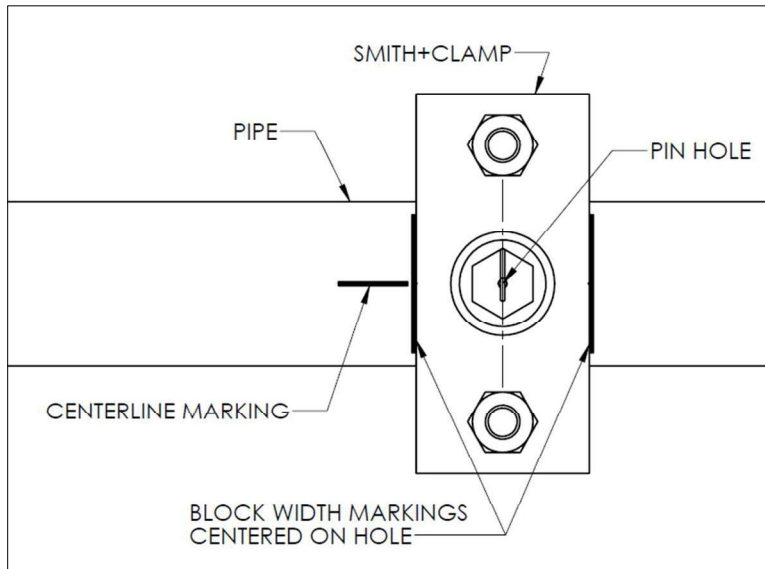

Figure 4
5. Using the markings and the pilot pin to locate the pinhole, slide the PLIDCO Smith+Clamp over the leak to the approximate location of the hole as shown in Figure 4.